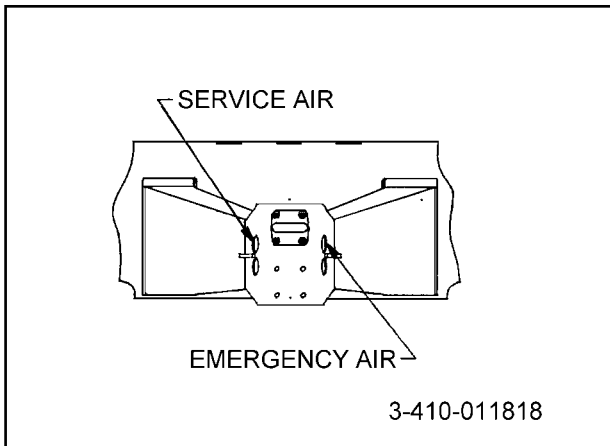

Figure 3-1 Service Hookups (Front View) - Air Brakes
- a. Connect the service and emergency air hoses of the towing vehicle to their respective gladhand on the front of the trailer. The towing vehicle's air hose couplings are attached and locked to the appropriate gladhands; **red emergency line** to the gladhand with the "**EMERGENCY**" tag, and the **blue service line** to the gladhand with the "**SERVICE**" tag (See Figure 3-1). Chock the trailer wheels before activating the trailer air supply valve in the towing vehicle. Set the trailer brakes.
- 3-4.1 Connect the electrical receptacle on the front of the trailer to the towing vehicle. (See Figures 3-1, 3-2, 3-3 and 3-4).